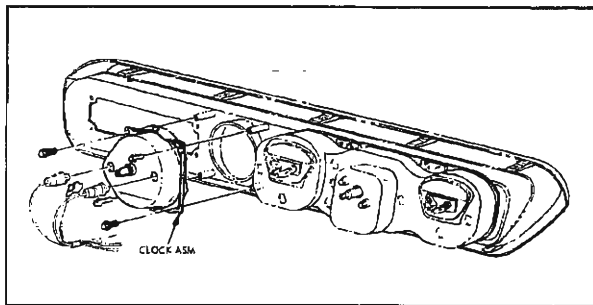

Fig. 12-12 Reference Illustration - Clock
2. Remove four retaining screws (Fig. 12-12).